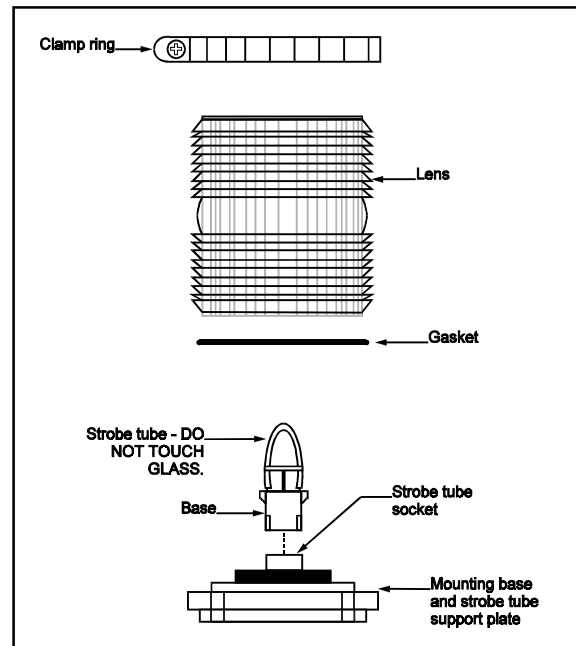

Figure 2. Strobe Tube Replacement
1. Refer to Figure 2. Remove the screw in the clamp ring, remove ring, and set aside. Carefully lift the lens straight up and off the signal mounting base, being careful not to damage the strobe tube or lens gasket. If the lens adheres to the gasket on the signal base **do not** force apart by hand but carefully pry the lens off using a thin blade screwdriver.